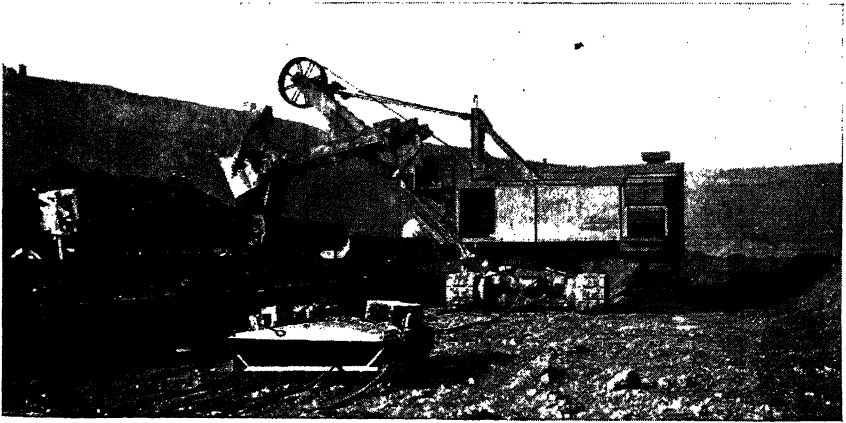

Fig. 259. An open mine in operation. This steam shovel places 600 tons of ore per hour into waiting railway cars
**Railways Transport Iron Ore.** As shown in Figure 259, waiting railroad cars are filled directly with a steam shovel. A steam shovel takes 5 tons to a scoop, 2 scoops a minute, or 600 tons an hour. These railroad cars, carrying 50 tons of ore each, are then run in long trains from the